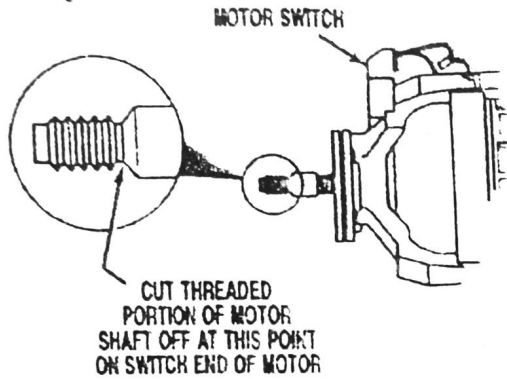

FIGURE 3
- From the switch end of the replacement motor, cut the threaded portion of the motor shaft off using a hacksaw. See Figure 3.